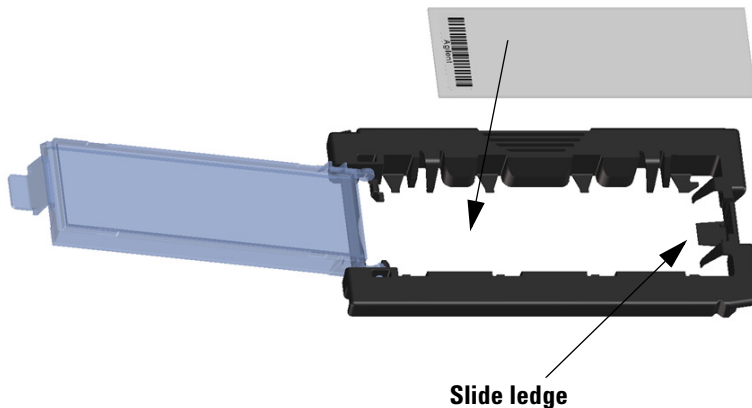

Figure 7 Inserting slide into the slide holder
- c Carefully place the end of the slide without the barcode label onto the slide ledge. See Figure 7.